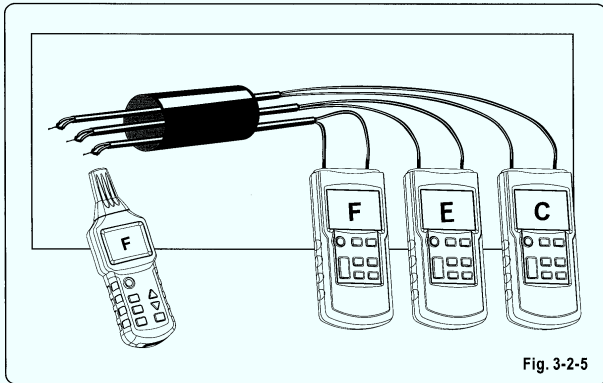

Fig. 3-2-5
- Connect the transmitter in a way shown in Fig.3-2-5;